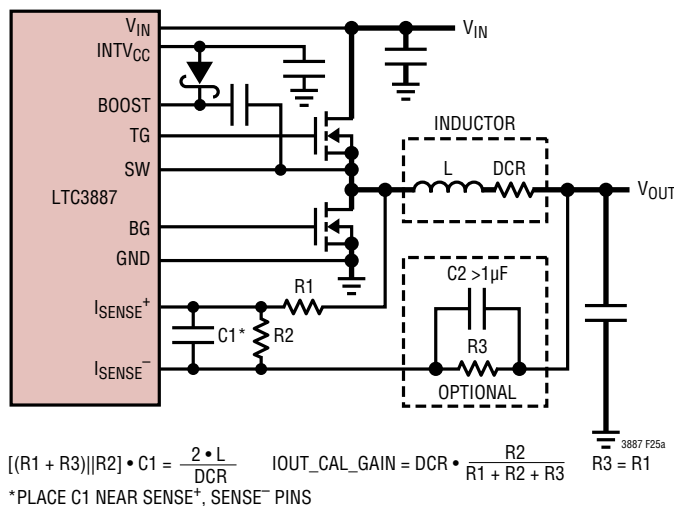

Figure 25a. Inductor DCR Current Sense Circuit
sharing between power stages. If DCR sensing is used (Figure 25a), sense resistor R1 should be placed close to the switching node (SW) to prevent noise from coupling into sensitive small-signal nodes. The capacitor C1 should be placed close to the IC pins. This impedance difference can result in loss of accuracy in the current reading of the ADC. The current reading accuracy can be improved by matching the impedance of the two I_{SENSE} inputs. To accomplish this add a series resistor between V_{OUT} and I_{SENSE}^- equal to R1. A capacitor of 1 μ F or greater should be placed in parallel with this resistor. If the peak voltage is <75mV at room temperature, R2 is not required.
For applications requiring the highest possible efficiency at high load currents, the LTC3887 is capable of sensing the voltage drop across the inductor DCR, as shown in Figure 25a. The DCR of the inductor represents the small amount of DC winding resistance of the copper, which can be less than 1mΩ for today's low value, high current inductors. In a high current application requiring such an inductor, conduction loss through a sense resistor would cost a few points of efficiency compared to DCR sensing.